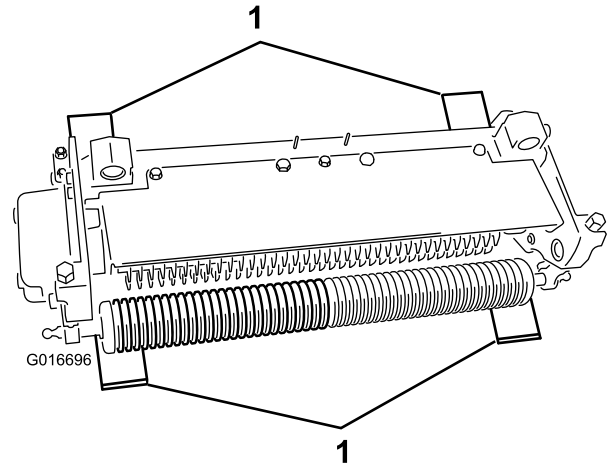

Figure 9
2. Place 4 gauge bars, set to the desired depth of blade penetration below ground, under the front roller and rear roller of the dethatching unit (Figure 9).